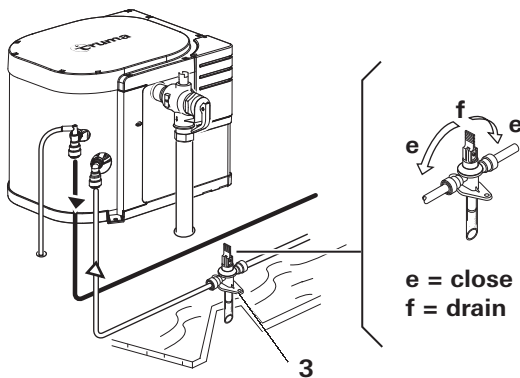

Fig. 2
- Close drain valve (Fig. 2 - 3).
- Open drain valve (Fig.2 - 3).
- The drain valve (Fig. 2 - 3) and the P&T safety valve (Fig. 2 - 4) are to be operated regularly to remove lime deposits and to ensure that they are not blocked. Frequency: every 6 months.